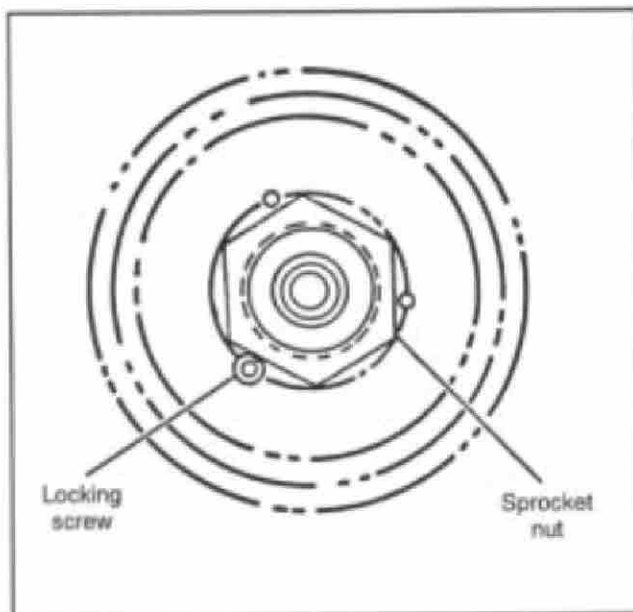

Figure 4. Securing Sprocket Nut
1. Wire brush and clean shaft splines. Apply a few drops of Loctite 271 from kit to splines of shaft and transmission belt sprocket from kit, keeping Loctite away from seal. Apply Loctite 271 to threads of shaft and to 3/4-16 hex jam nut from kit. Install sprocket on shaft with flange to the outside. Place transmission in gear (or reuse wooden block which had been used in removal/disassembly) to prevent shaft from rotating. Thread on new nut (do not use original sprocket nut) and tighten to a minimum of 65-75 ft-lbs torque. Coat threads of 10-24 x 3/8 in. hex socket screw from kit (very lightly) with Loctite 271. Install screw in one of the three tapped holes in sprocket (see Figure 4 for proper screw location). Screw must be as close as possible to the side of the hex nut corner which will prevent any counterclockwise rotation (loosening) of the nut. If screw does not quite align with the desired mounting hole, do not loosen sprocket nut. Instead, tighten the nut further to attain the proper alignment (maximum 100 ft-lbs torque). Tighten screw to 50-60 in-lbs torque.